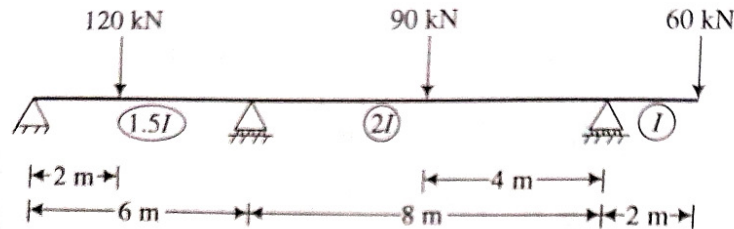

Figure 5.
9. Analyze the continuous beam shown in figure 5, by stiffness matrix [14M] method.